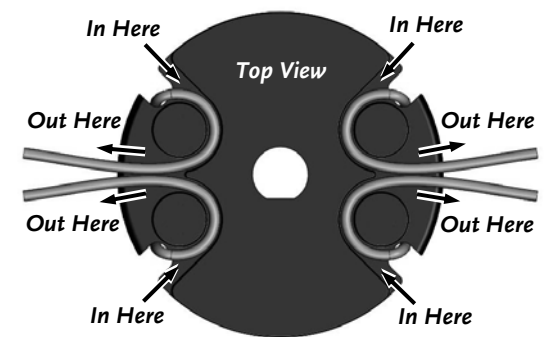

Figure 7
**Figure 7** illustrates the Cords installation on the Line Plates. It shows the Line Plate from a top view. It may look complicated, but once you have done it a couple of times, it's easy. There are two installation points on each Line Plate. Each point is 180 degrees apart. Always install two Cords, one opposite the other.